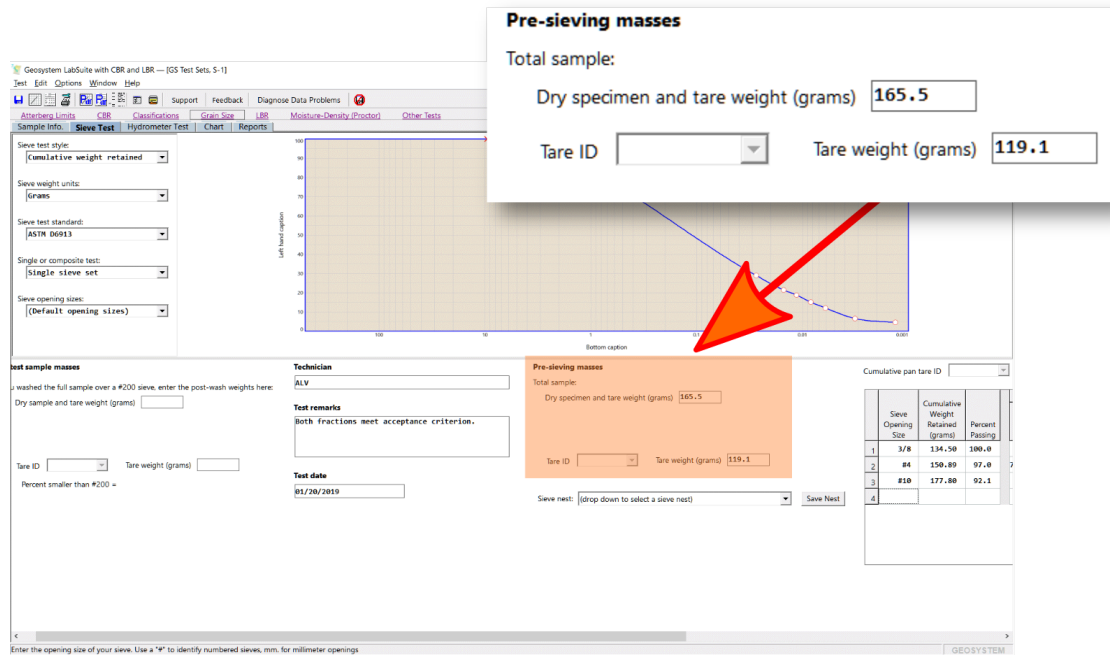

Figure 3.13: D6913 No Split Sample Mass
- The mass of the sieve sample. This is entered into the **Pre-sieving masses** box, shown in Figure 3.13.